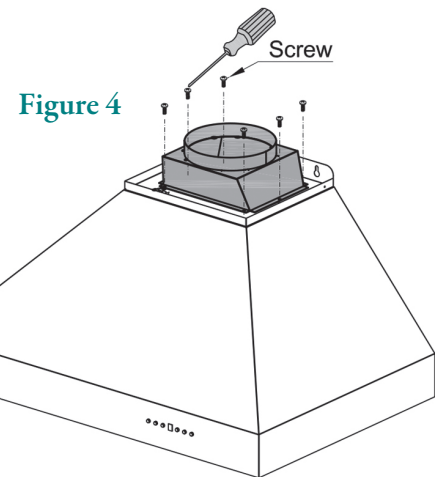

Figure 4
- 5 Install the transition piece securing it with screws provided. (Figure 4)